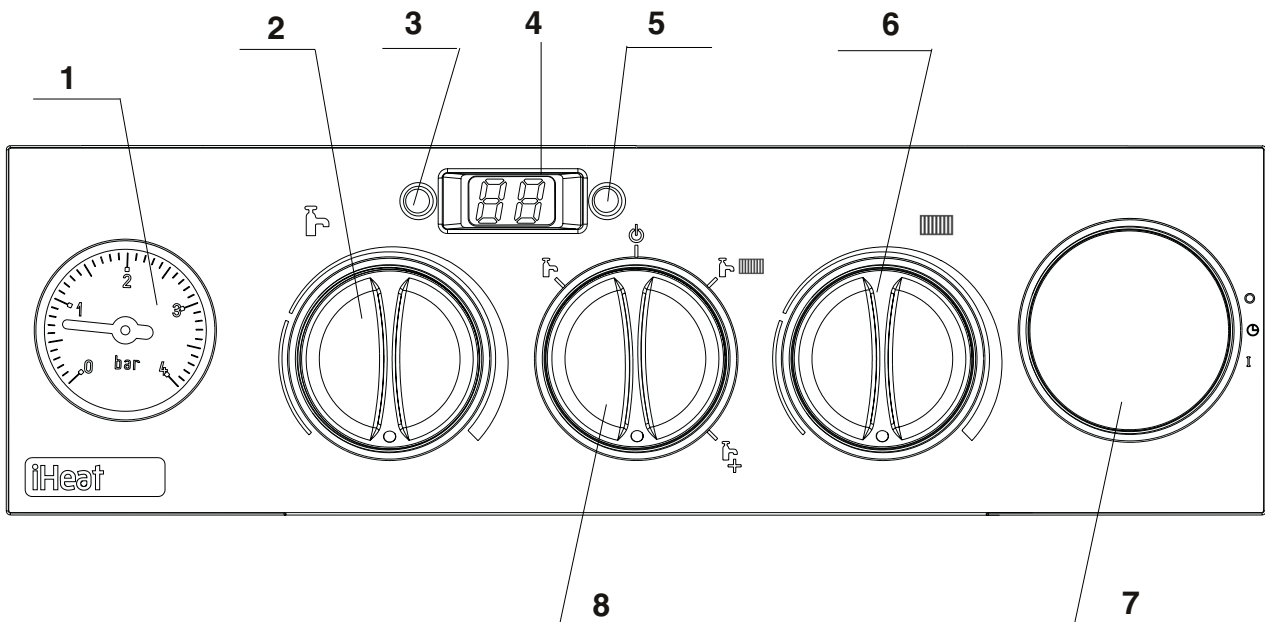

fig. 1
2.2 Appliance controls (see fig. 1)